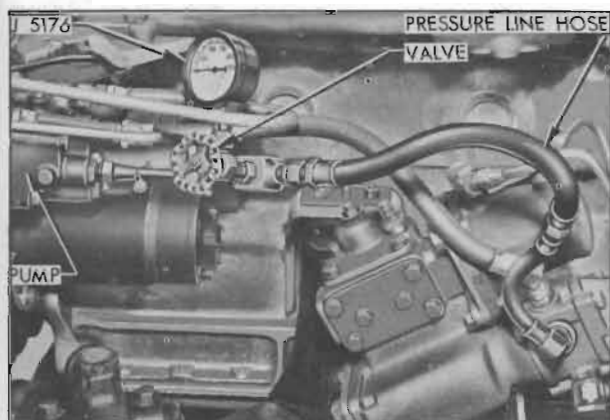

Figure 7-19—Pressure Gauge J 5176 Installed
(1) Disconnect the pressure line hose at oil pump, attach Gauge J 5176 to pump and connect the hose to end of gauge where the valve is located. See figure 7-19.